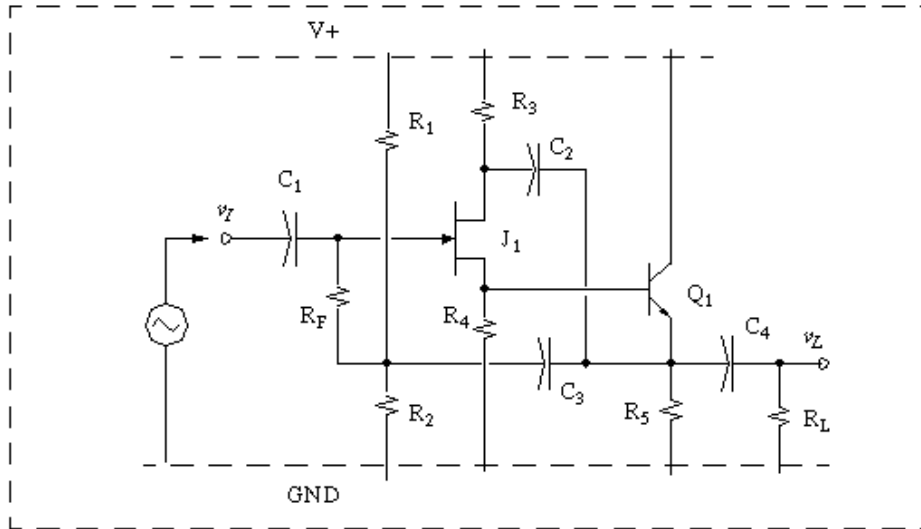

Figure 10-2: High input impedance voltage follower
2. The JFET also can take on the role as a high input impedance device for which very high circuit R_{in} can be achieved, as is represented by the voltage follower circuit of figure 10-2. But it usually lacks the high transconductance characteristics of the BJT, which are key to forming a good buffer circuit. The circuit of figure 10-2 uses both of these devices to achieve a nearly ideal unity-gain buffer, which has natural applications for almost every gain circuit in existence.
For the circuit of figure 10-2 circuit input impedances on the order of $100\text{M}\Omega$ are not unreasonable. This type of circuit is therefore often suggested for such extreme instruments as an electrometer, for which even the leakage of individual electrons is to be avoided.